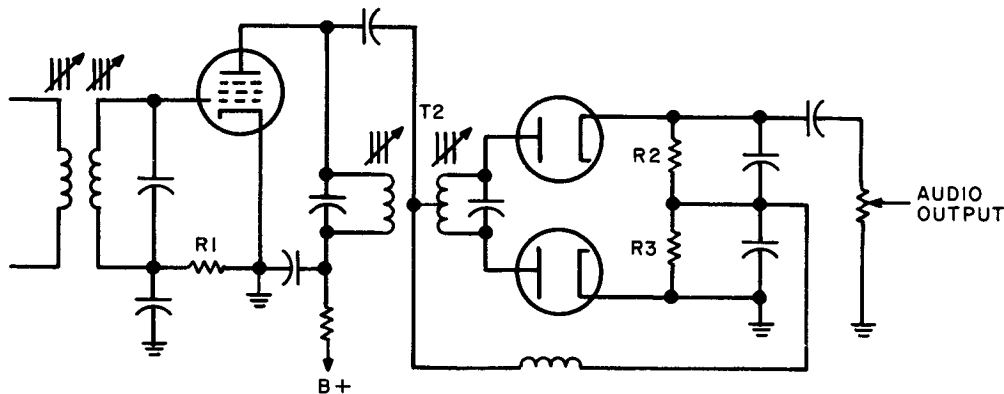

Figure 6. Basic Foster-Seeley Discriminator Circuit
Aligning 10.7 MHz IF and Foster-Seeley Discriminator. (See figure 6.)
3. Connect a VTVM across the limiter stage grid resistor (R1 in figure 6).